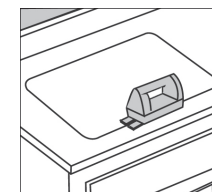

Figure 2
3. Cut the hole for the sink, using a jig saw to cut along the outline between each hole. (Figure 2)